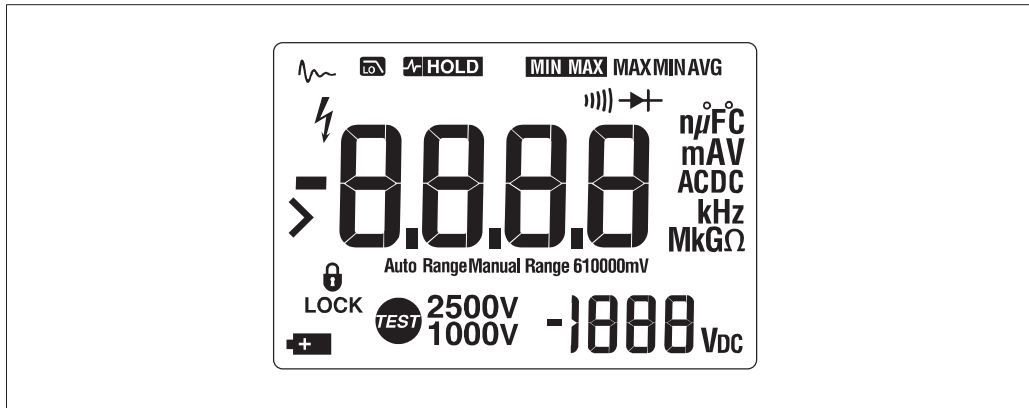

Figure 3. LCD Display Test
3. While continuing to depress **HOLD**, verify that the lit display segments match those shown in Figure 3.